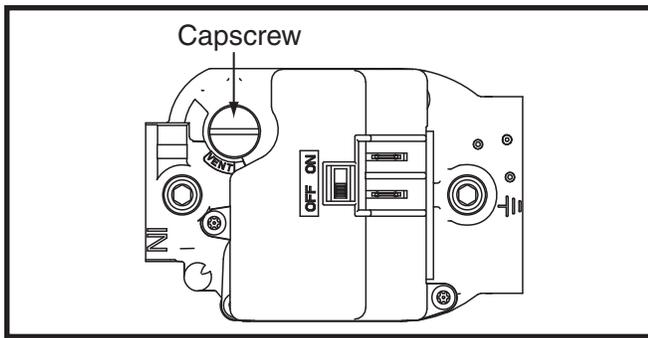

Figure 17. Regulator Capscrew
- b.) Remove the regulator capscrew (Figure 17, page 22) from the INLET side of the regulator.